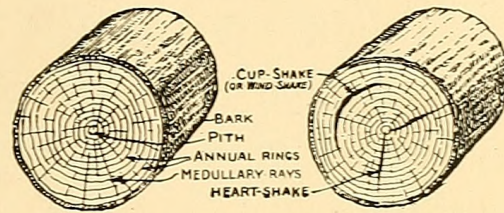

FIG. 63. FIG. 64.
**Structure of Wood** and how this must be taken into consideration in converting the log into lumber, as it will enable you to select and handle your material more intelligently. Figure 63 shows a *cross-section* of a log. In the center, or generally a little to one side of the center, is a circular core known as the *pith*, then surrounding this is a series of circles known as *annual rings*, and around the outside is the *bark*. The wood between each two rings represents the amount of one year's growth, and the annual rings are produced as a result of the suspension of growth during autumn and winter. By counting the rings it is very easy to determine the age of a tree. The inner portion of the tree is known as the
*heart-wood* and supplies the more solid and desirable material (unless the tree has started to decay, when the first signs are generally to be found here), while the outer wood is known as the *sap-wood*, as it contains the greater portion of the tree's juices. In the cross-sections of logs (Figs. 63 and 64) you will notice a series of lines radiating from the pith, some extending as far as the bark and others running but part